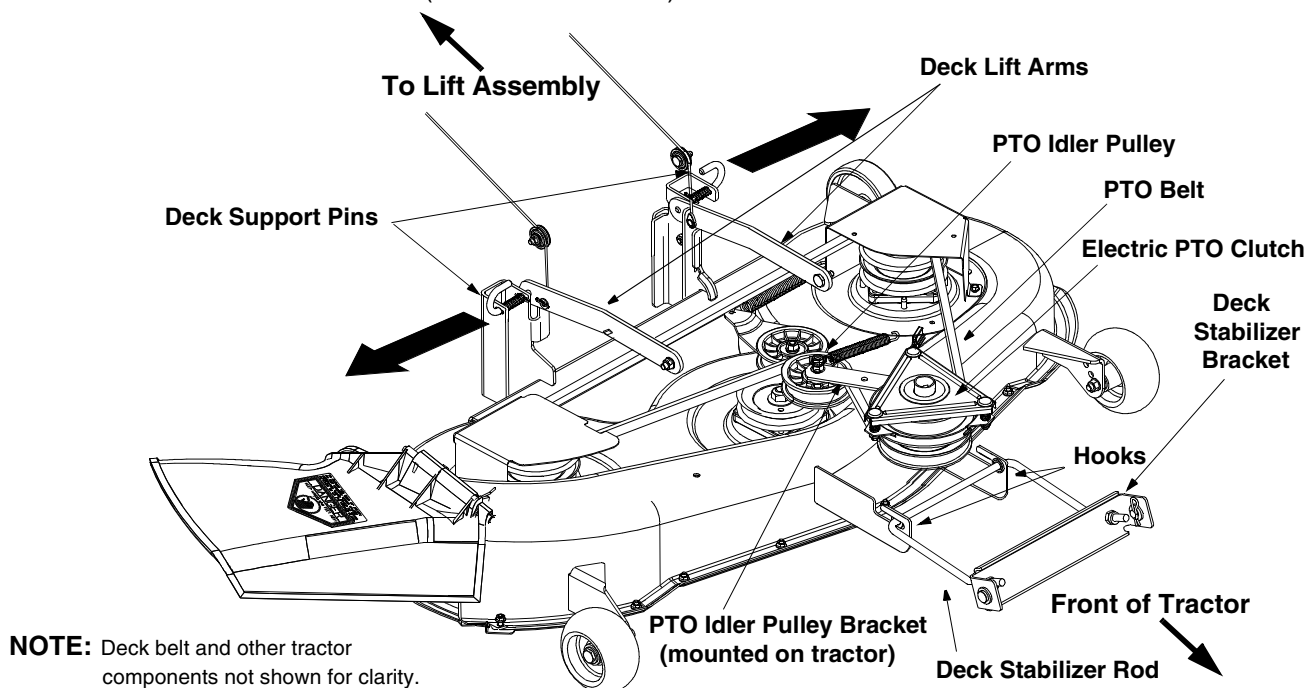

Figure 15
- Pull the deck support pin outward to release the deck from the deck lift arm. See Figure 15.